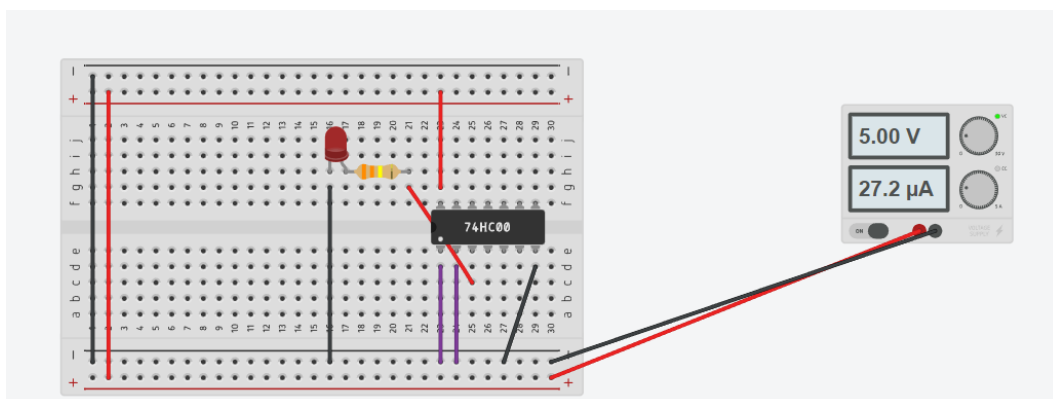

Figure 5. Test NAND IC on the Breadboard.
- As shown in Figure 4, Pin 7 is the ground and Pin 14 is VCC. So, connect 7400 Pin 7 to the ground line, and Pin 14 to the 5V power line, as shown in Figure 5.
- Connect Inputs of the first NAND gate, Input A1 (Pin 1) and Input B1 (Pin 2), to the Ground (logic 0), the purple two wires shown in Figure 5.
- Connect Output Y1 to the resistor, as shown in Figure 5.